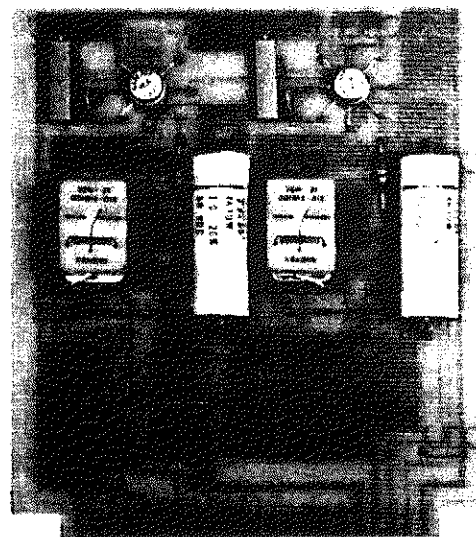

Figure 8. Memory Circuit Board
1. The Left Memory Board (Figure 8)
2. The Right Memory Board (Figure 8)